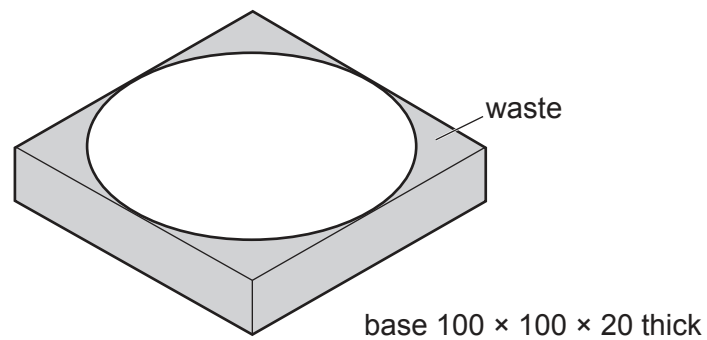

Fig. 12.2
- (a) Fig. 12.2 shows the hardwood base marked out ready to be cut to shape.